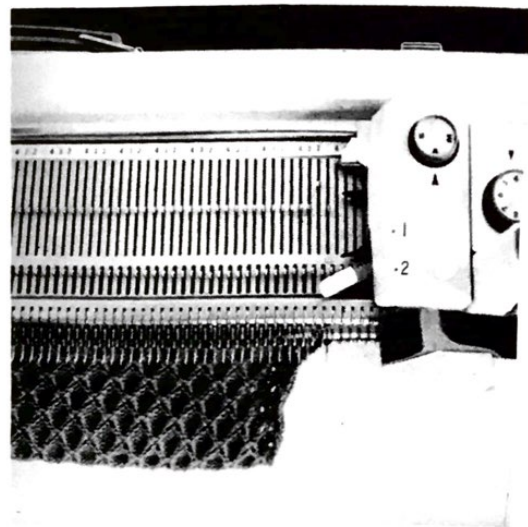

Fig. 31
**7th row** Carriage on right. Push back into Position (B) the 2nd needle from the right end opposite No. 2 on the N.S.G.S. (Fig. 31). Knit 1 row.
**8th row** Carriage on left. Push back into Position (B) the 3rd needle from the left end needle opposite No. 2. Knit 1 row.
**9th row** Carriage on right. Push back into Position (B) the 2nd needle from the right opposite No. 2. Knit 1 row.
**10th row** Carriage on left. Push back into Position (B) the 3rd needle from the left and opposite No. 2. Knit 1 row.